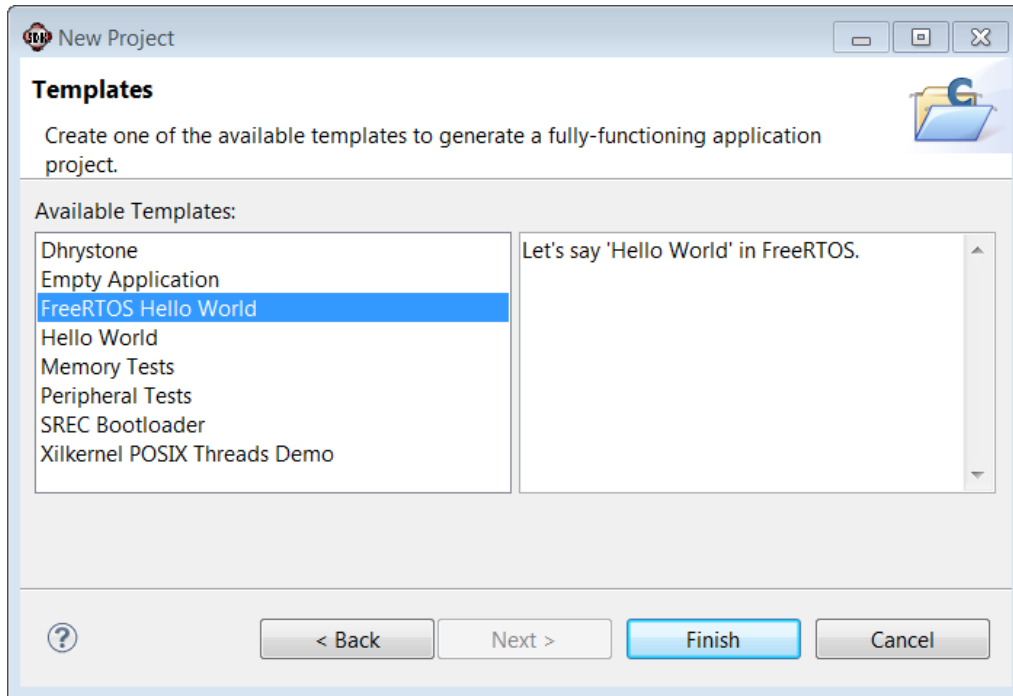

Figure 139: New Project: Template Wizard
6. Select the **freeRTOS Hello World** application template (Figure 139).